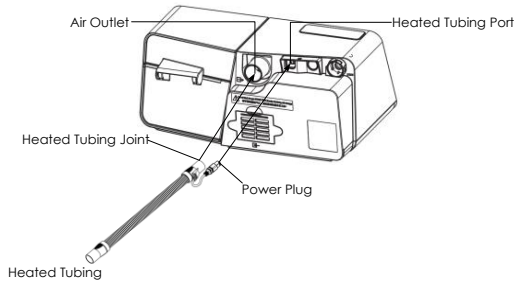

Fig. 10-9
(2) Connect the heated tubing joint to the air outlet of the device, and then insert the power plug into the heated tubing port on the back of the device, as shown in Fig. 10-9.